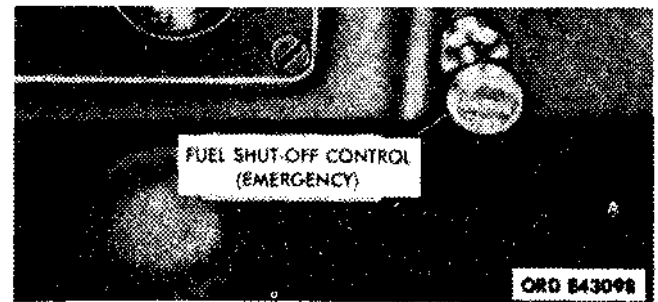

Figure 2-83. Removing emergency fuel shutoff control from instrument panel—diesel only.
- (3) Remove the nut and lockwasher securing the emergency shutoff control to the instrument panel. Pull the control away from the panel (fig. 2-83).